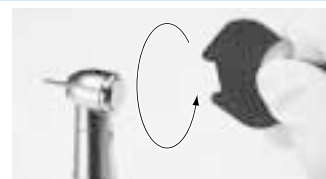

Fig.12
(1) Removing the cartridge
- ① Mount a dummy bur in the chuck.
- ② Set the wrench on the head cap, turn the wrench counter-clockwise and remove the cap. (Fig.12)
- ③ Push up the dummy bur, and the cartridge is easily removed from the head.
- ④ Clean the head interior, when dirty, with PANA-SPRAY.